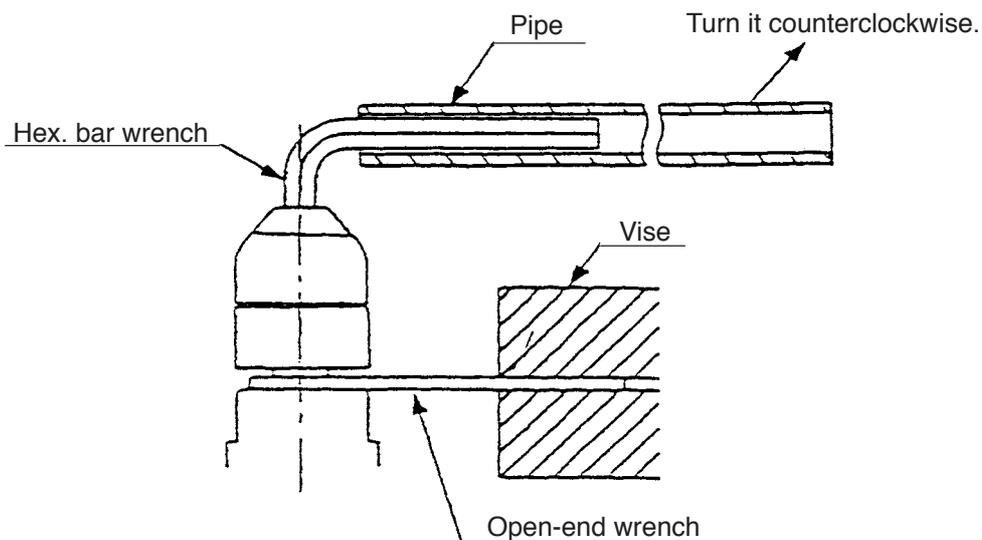

Fig. 9
b. Hold the Spindle [3] with the open-end wrench secured to the vise as shown in Fig. 9.
Mount the pipe to the hex. bar wrench. Turn the hex. bar wrench counterclockwise to loosen the drill chuck. (Fig. 9)